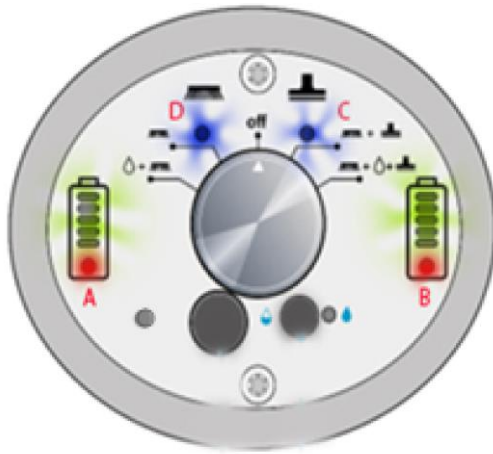

Figure 20B
11. For short term parking of the machine i-mop® has a built in timer to manage and guarantee it's durability on brushes. The operator shouldn't park the machine too long on it's brushes to avoid damage to the brushes. The display will start to light up as indicated in figure 20B. After 9.5 minutes the lights indicated on A,B,C,D start blinking.